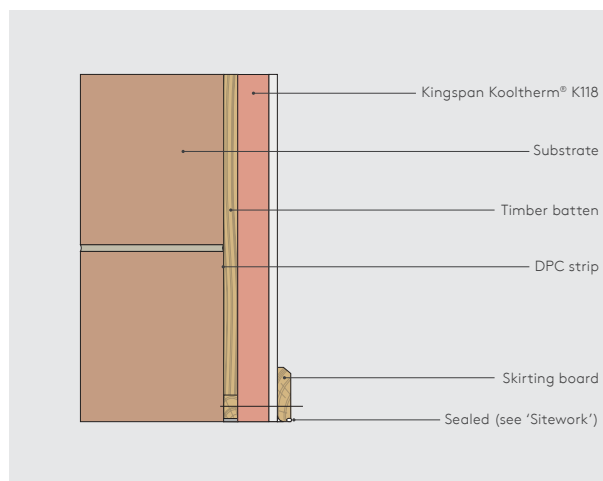

Figure 11: Packer and skirting detail
- The packer should be replaced with a flexible / sealant or equivalent (for 5 mm gaps), or with a combination of flexible polyurethane foam and flexible sealant or equivalent (for 15 mm gaps) (see Figure 11).